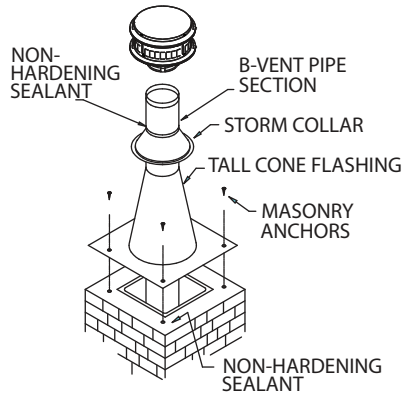

Figure 28
**(d). Flex Pipe Assembly.** Assemble first Rigid Pipe Section to the Flex Pipe, insuring that the “UP” arrows are in fact, pointing up. Push the sections together and twist to lock. Screws are not required, however if you desire to use them, use #8 sheet metal screws 1/4-inch long, being careful to not penetrate the inner liner. Repeat this process for the remainder of the Pipe Sections, and lower the assembly down the chimney. Lower it below it’s normal position as shown in **Figure 28**.
non-hardening sealant to secure the flashing to the masonry (**Figure 28**).
**(i). Termination Cap.** Install the Termination Cap as shown in **Figure 28**. This concludes the procedures for installing a gas fireplace in an existing masonry fireplace. Conduct a final inspection of the system, and verify that you have complied with the manufacturer's installation instructions.
(f). **Flashing.** Bend and trim the base of the Tall Cone Flashing so it fits onto the top of the masonry chimney. Use masonry anchors and non-hardening sealant to secure the flashing to the masonry (**Figure 28**).